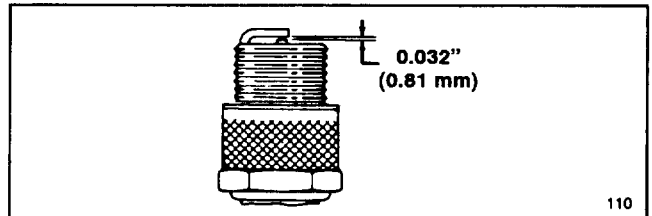

Figure 14
3. Set air gap at 0.032" (0.81 mm) (Fig. 14). Install correctly gapped spark plug and gasket seal. Tighten plug firmly to 10 ft-lb (13.6 N-m).